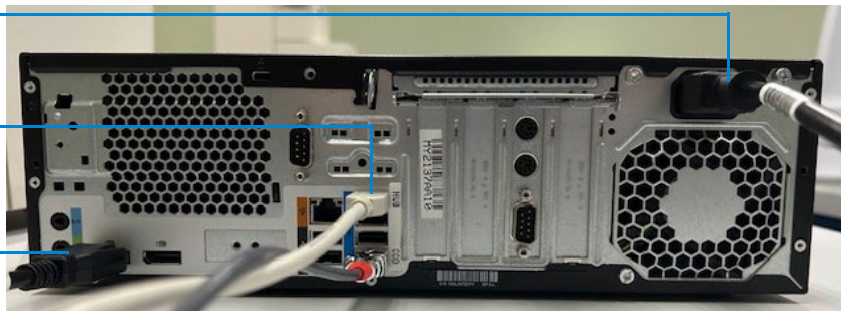
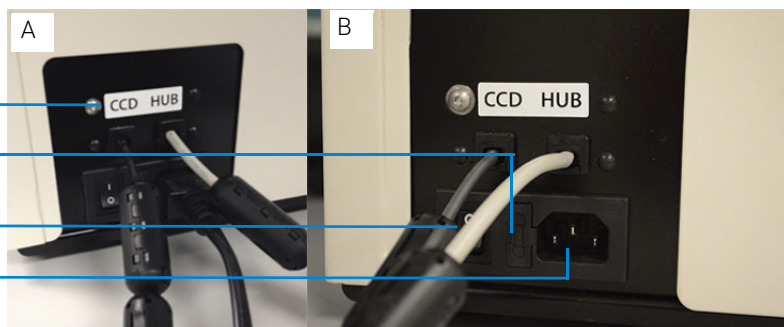

Figure 2 Rear of PC showing all electrical connections
Figure 3 Rear of instrument showing all electrical connections
The back of the Fragment Analyzer system contains the communications panel where necessary connections are made to the instrument computer and electrical outlet for operation (**Figure 2** and **Figure 3**).
- Connection **Figure 2**: Rear of PC
- Connection **Figure 3**: From the Fragment Analyzer system